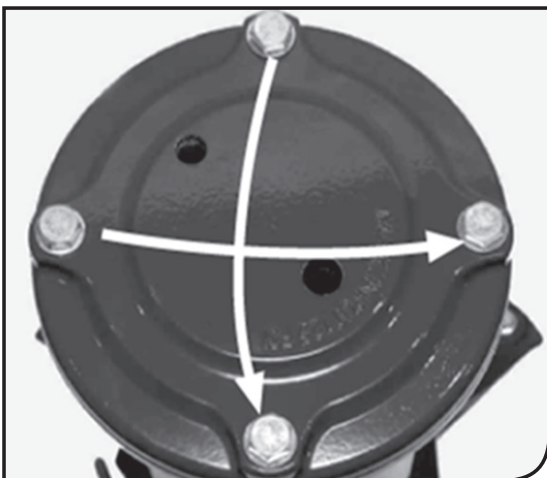

Fig. 5.1
5. Insert a new filter cartridge and reassemble the lid, tighten the bolts in the pattern drawn in (Fig 5.1) tighten to 10ft / lb torque.